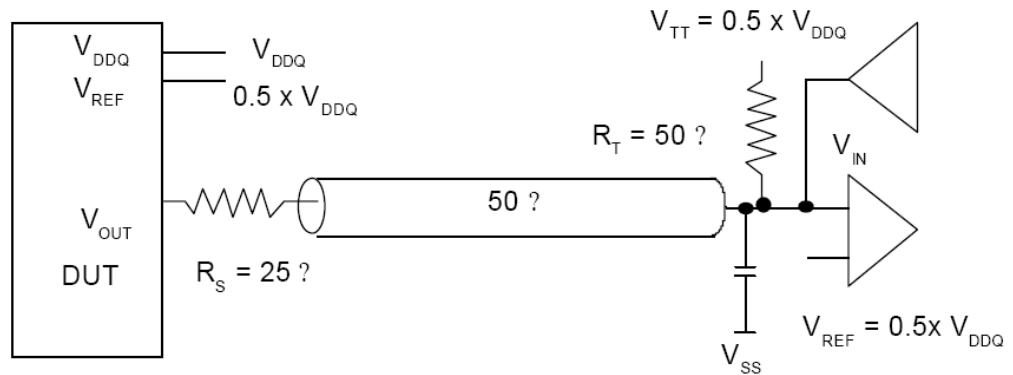

Figure 50 - SSTL2 Class 1 Termination
**SSTL2 Class 1** termination is used for unidirectional signaling, such as control signals. It is based on a  $50\Omega$  controlled impedance driver, a  $50\Omega$  controlled impedance transmission line, and a  $50\Omega$  parallel termination to  $V_{TT}$  at the receiver. Figure 50 shows a basic SSTL2 Class 1 circuit. The driver is brought to  $50\Omega$  by the addition of a  $25\Omega$  series resistor immediately adjacent to the driver (implemented using DCI, thus no need for an external component).